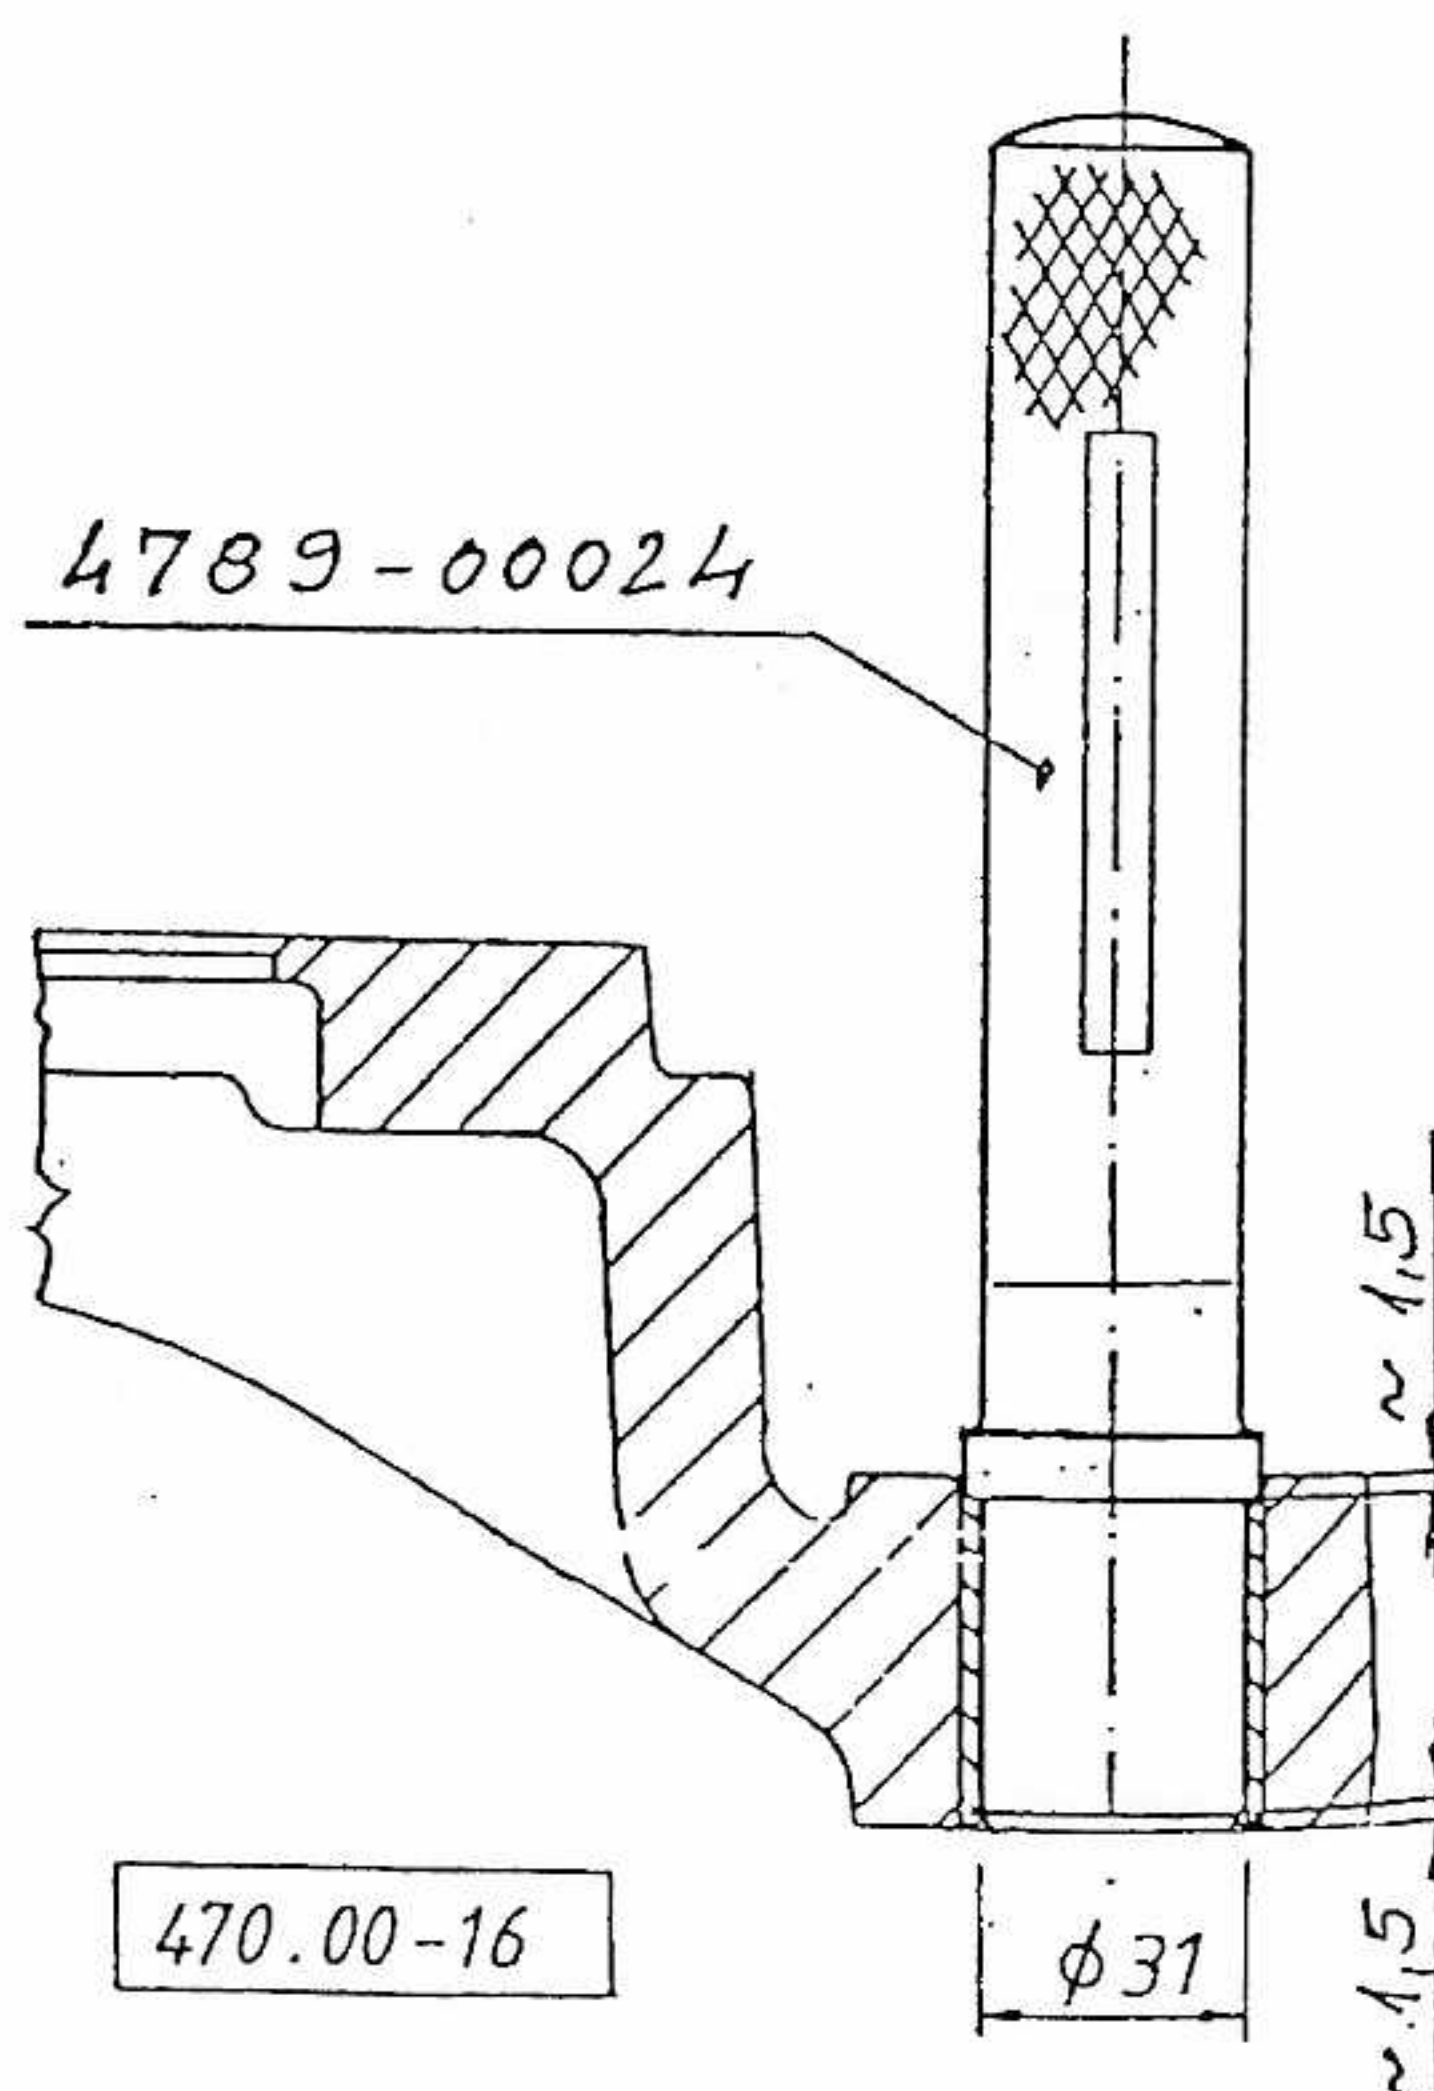

Fig. 1.: PRESSING THE BUSHINGS IN AND OUT
If the anchor pin bushing (16) are to be replaced, use the tool shown. Fig. 1.